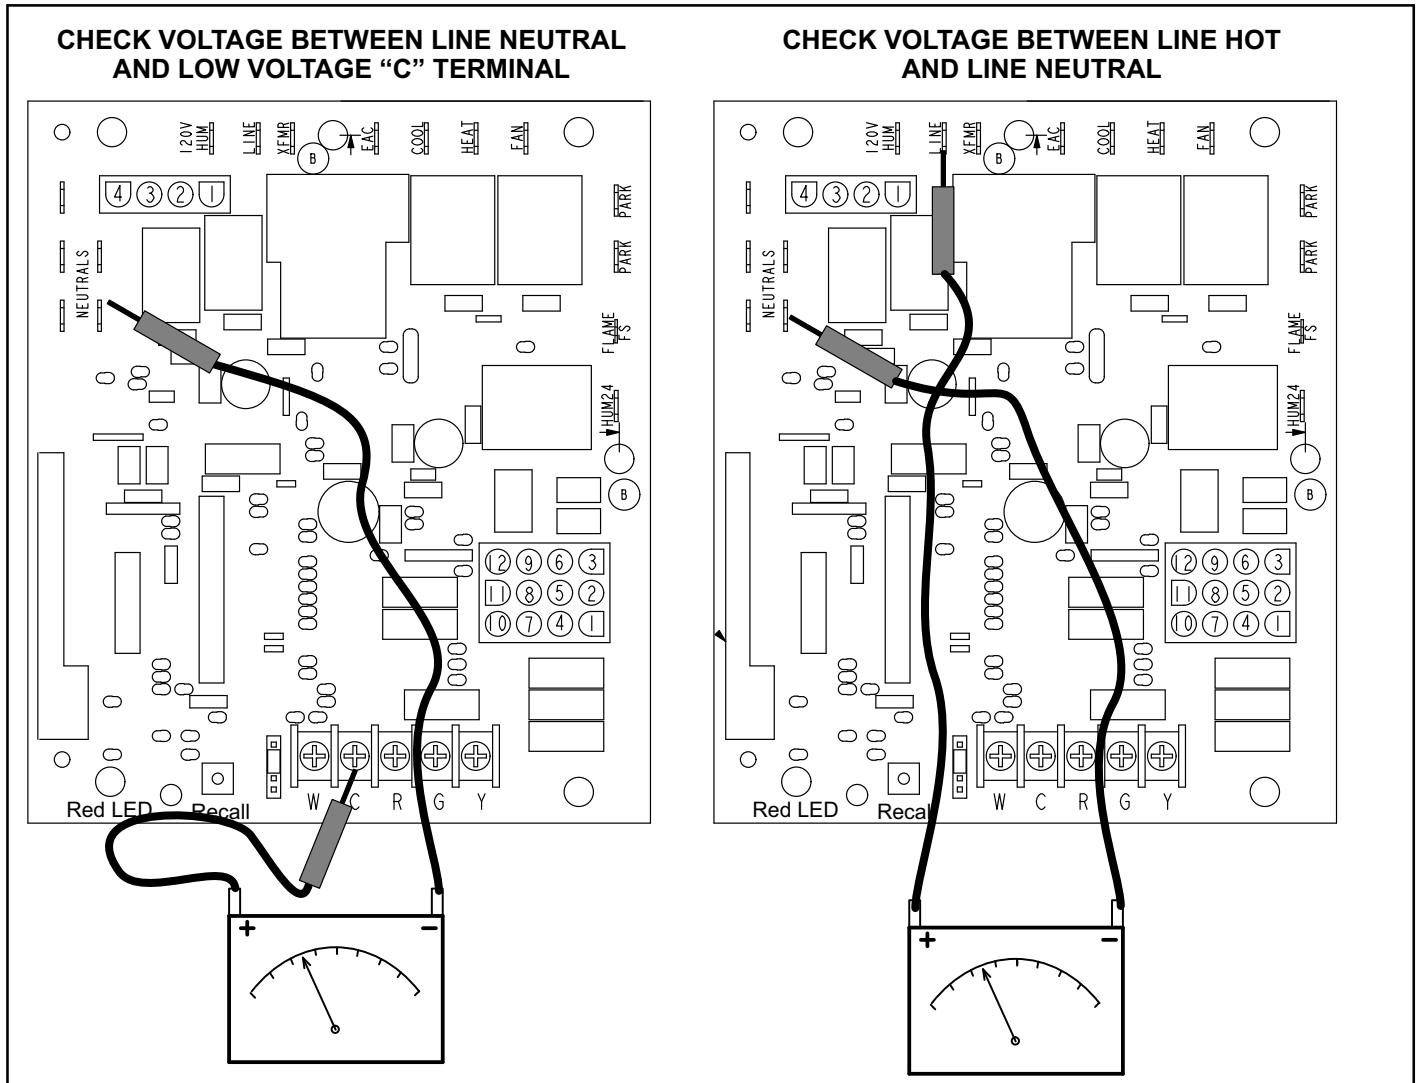

FIGURE 53
- 1 - Measure the AC voltage between Line Neutral (spade terminals) and "C" terminal (low voltage terminal block) on the integrated control. See figure 53. A wide variation in the voltage between Line Neutral and "C" as a function of load indicates a poor or partial ground. Compare the readings to the table below. If the readings exceed the maximum shown in table 1, make repairs before operating the furnace.
- 2 - In addition, measure the AC voltage from Line Hot to Line Neutral (spade terminals) on the integrated control. See figure 53. This voltage should be in the range of 97 to 132 Vac